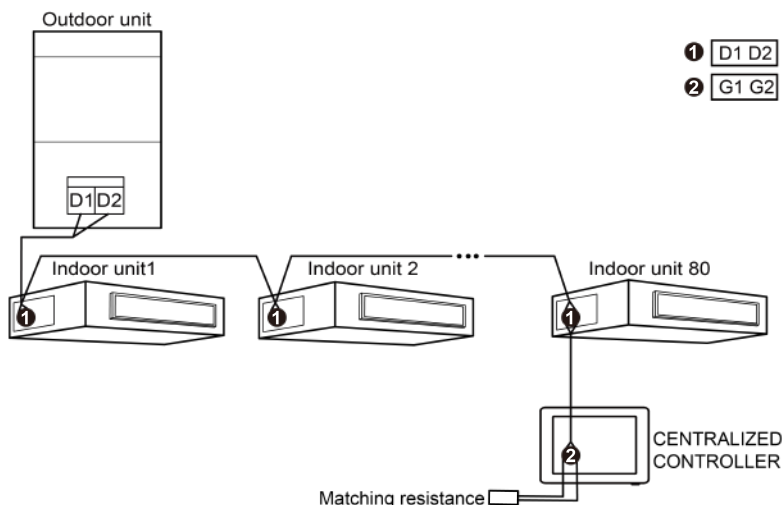

Fig.3.4 Centralized Controller Connected with Indoor Network
- (1) The centralized controller is applicable to multi VRF units, connectable with network of indoor units or the network of outdoor units. One centralized controller can control up to 16 sets of outdoor system and up to 255 sets of indoor unit.
- (2) If the centralized controller is to be connected with the network of indoor units, connect according to fig.3.4. The centralized controller can only be connected with the terminal unit of indoor network. A matching resistance needs to be added with the communication cords at the G1 and G2 ports.